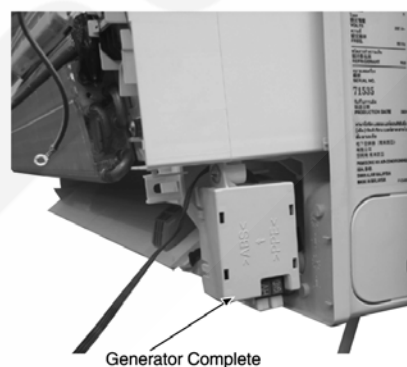

Fig. 8
- Release the generator complete wire (green and red). (Fig. 8)